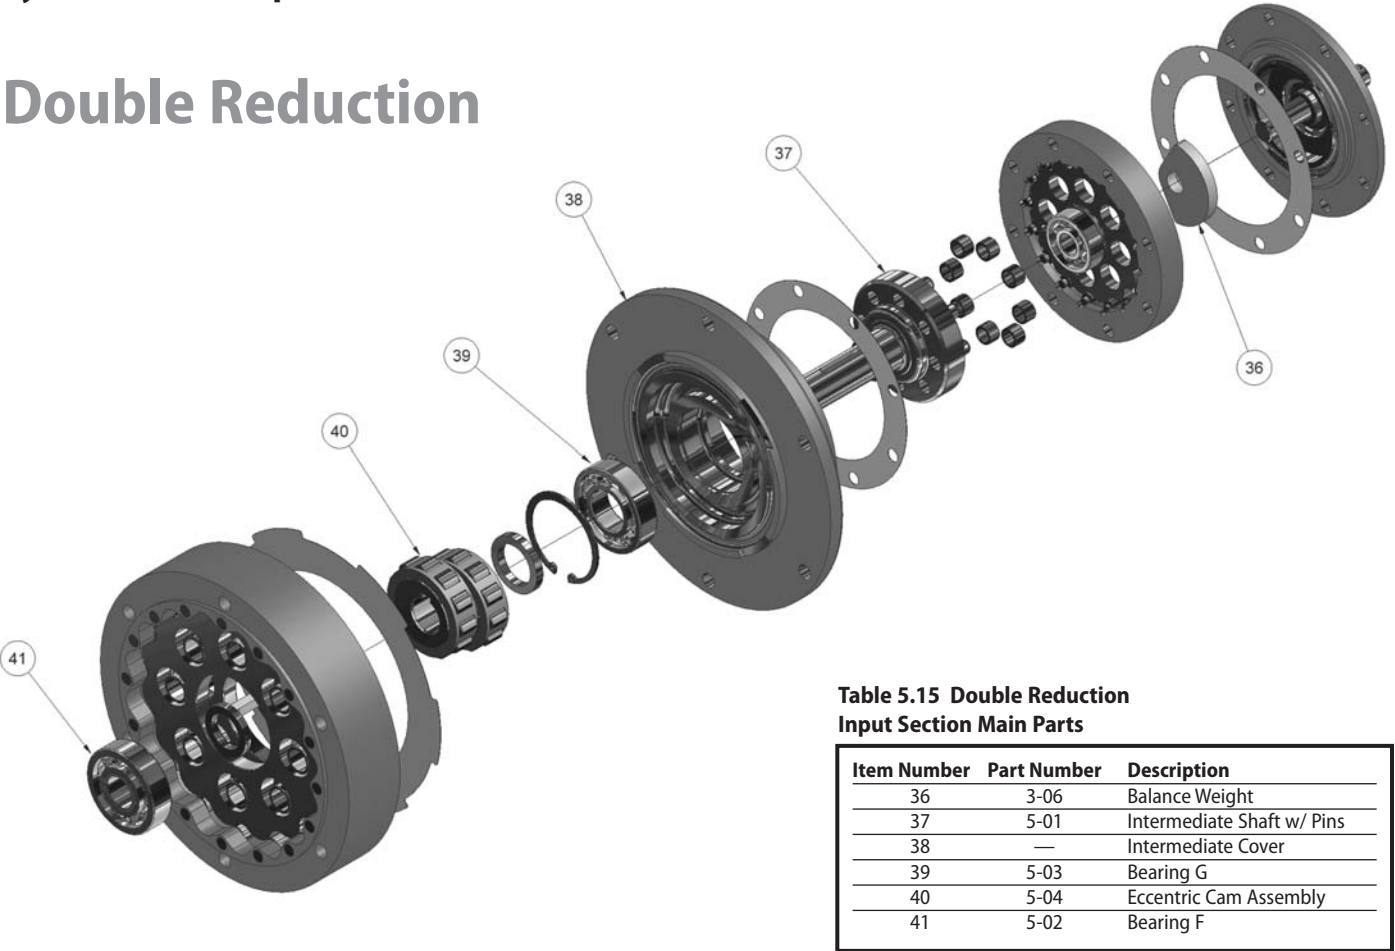

Figure 5.10 Double Reduction Cyclo® Reducer Input Section Exploded View
Step 4 – After the liquid penetrant has been allowed to settle, remove the capscrews one at a time (see Fig 5.10).